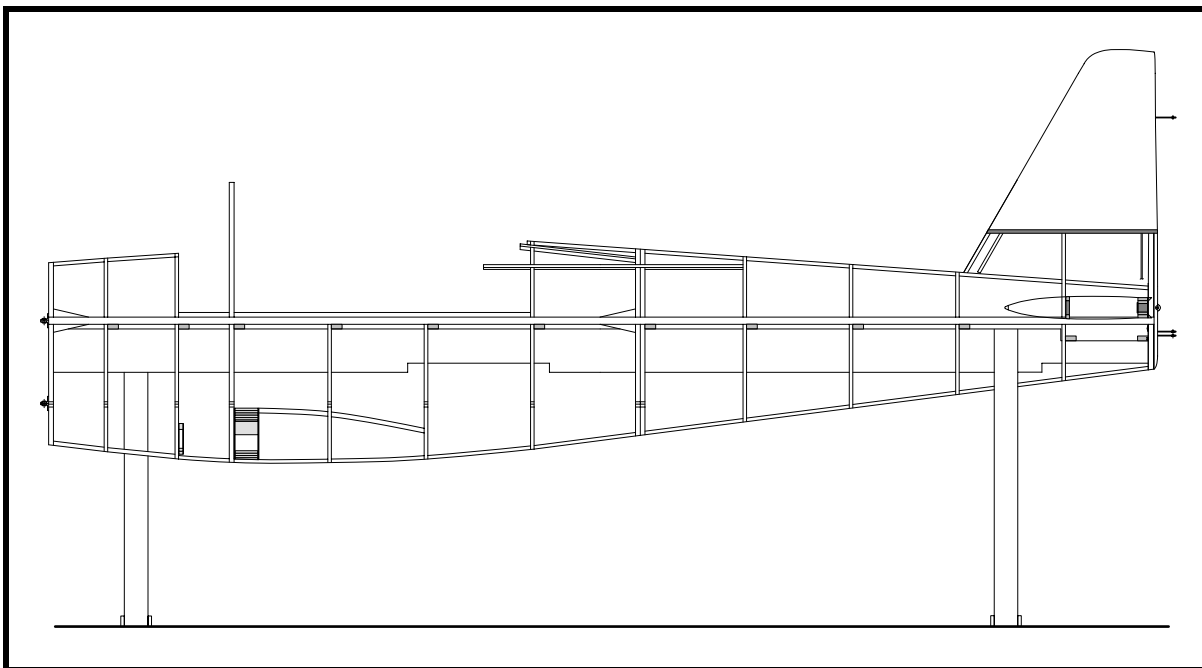

Figure 25
- ☐ Fit and glue the two 35x150 corner blocks for the left side longeron at the forward face of frame No. 8. See Figure 25.